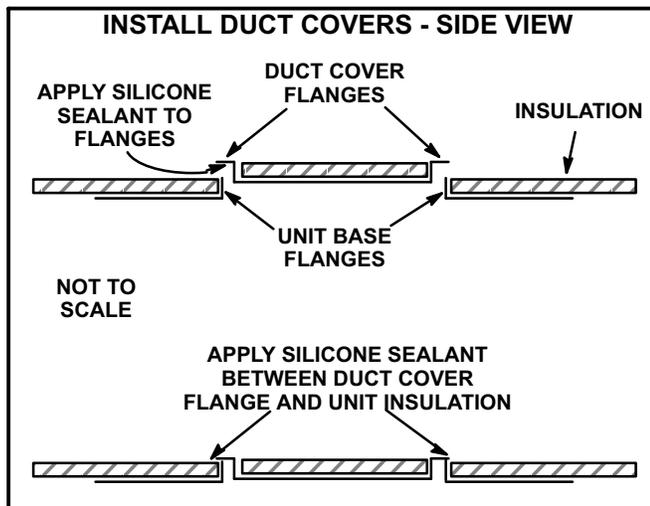

FIGURE 4
- 1- Remove horizontal covers and place a bead of silicone sealant on the underside of the duct cover flanges. See figure 4.